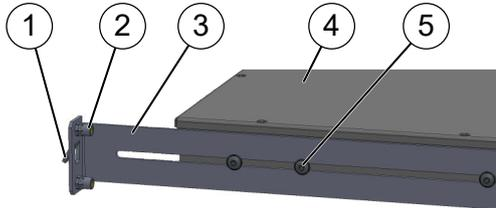

Fig. 21: Assembling the rails
10. ▶ Attach the right and left rails (Fig. 21/3) on the side of the system (Fig. 21/4) using the supplied screws (M4, Fig. 21/5).
11. ▶ Attach the system in the rear area of the cabinet using the hook (Fig. 21/1) on the rails.
14. ▶ Tighten the screws (Fig. 21/5).
15. ▶ Mount the rear rails on the cabinet using the supplied screws (M5). Nuts for doing so are provided in the rails (Fig. 21/2).